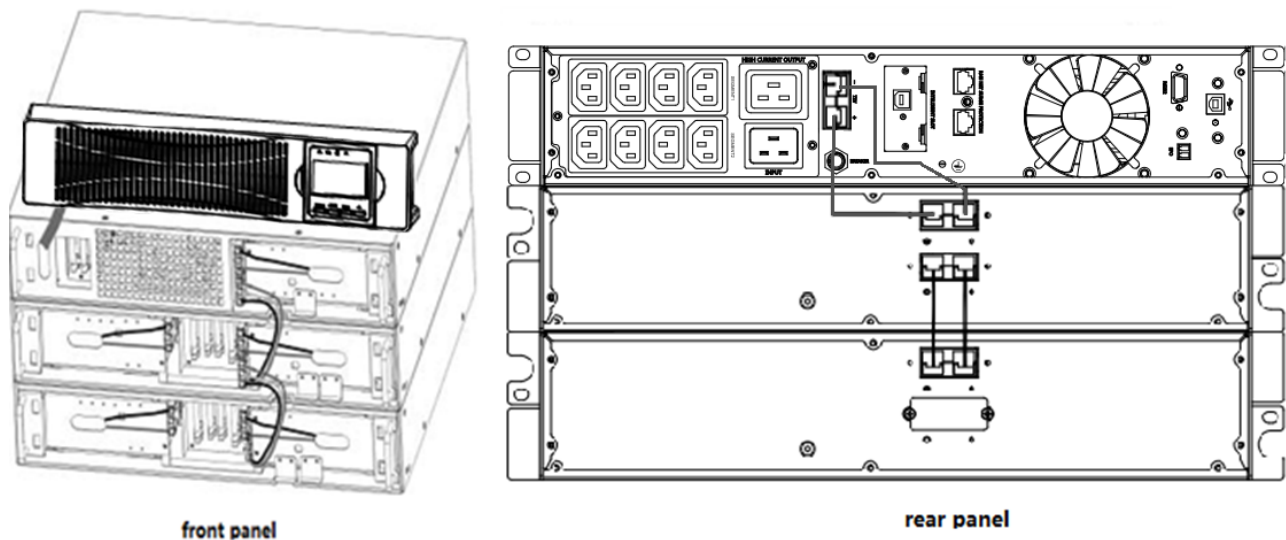

Figure 10 Typical EBP Installation
- c) For the bottom (or only) EBP, remove the EBP cable knockout on the top of the EBP front cover. See Figure 10 for the location of the top EBP cable knockout.
- d) If you are installing more than one EBP, for each additional EBP remove the EBP cable knockout on the top and bottom of the EBP front cover. See Figure 10 for the location of the EBP cable knockouts.
- e) Plug the EBP cable(s) into the battery connector(s) as shown in Figure 10. Up to four EBPS may be connected to the UPS. Connect black to black,. Press the connector tightly together to ensure a proper connection.